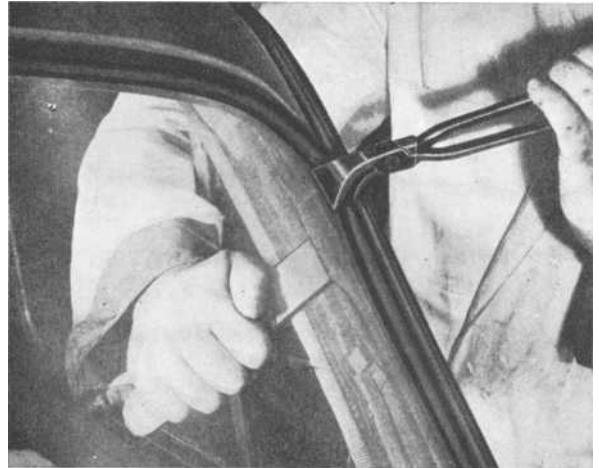
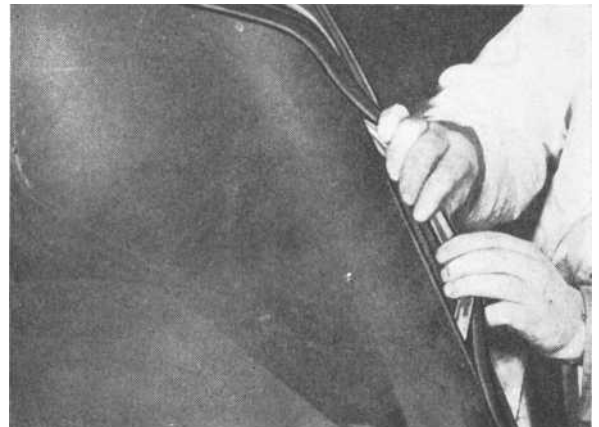

Fig. 57. Releasing rubber strip
Fig. 58. Removing rubber strip
4. Start removing the rubber strip in the upper left-hand corner by prising the rubber strip over the sheet metal edge from inside and at the same time carefully pulling out the strip from outside with a pair of grips as shown in Fig. 57. Then carefully pull off the strip by hand all round as shown in Fig. 58 and remove the windscreen.